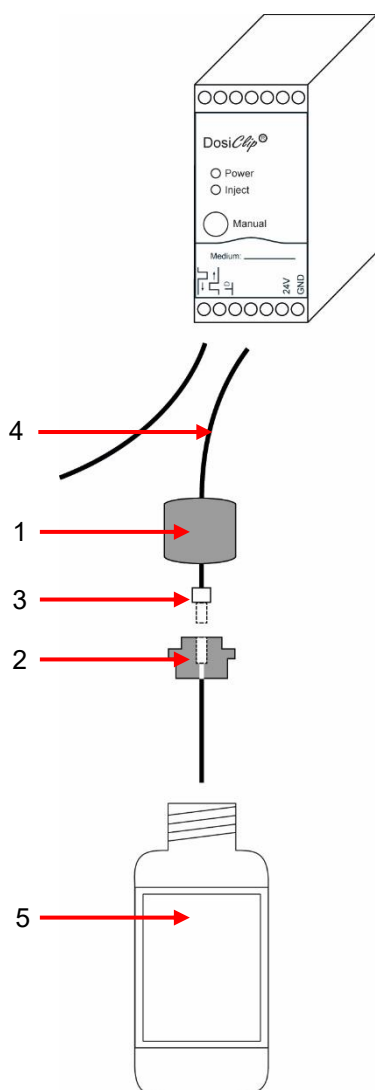

Figure 18
Insert the reagent bottle B as follows. Consider figure 18.
2. Remove the plastic bag from the inner side of the lower housing door. It contains the screw cap with hole (1) and the insert (2) for the screw cap.
3. Join the parts together as shown below in figure 18.
4. Screw the hose connector (3) of the suction hose (4) hand-tight into the insert (2).
6. Now screw the screw cap with hole (1) hand-tight onto the reagent bottle (5).
To open the water inlet, carry out the following steps. Refer to figure 18.